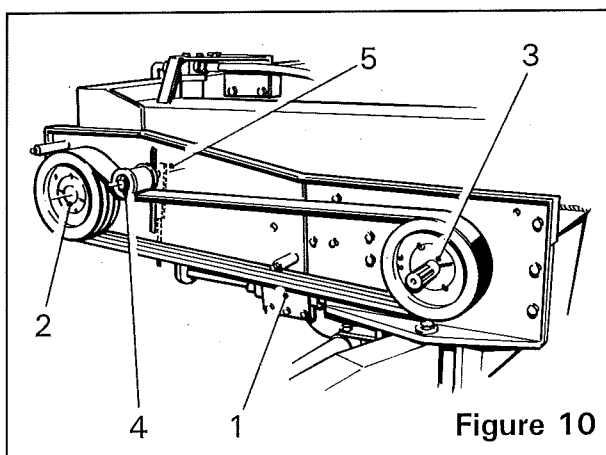
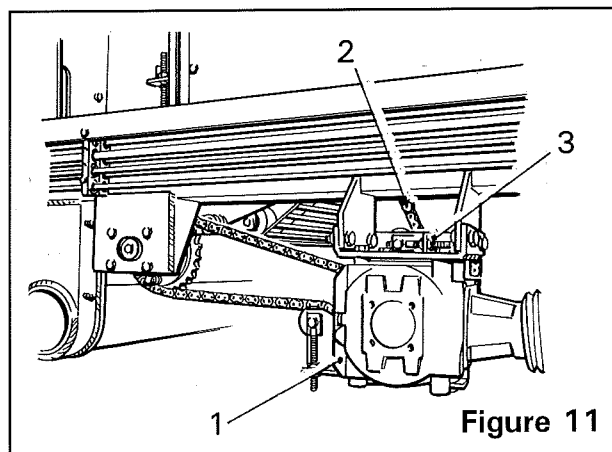

Figure 10
Figure 11
The main digger web drive is taken from the tractor PTO via four SPB section 'V'belts (*item 1, figure 10*). The drive shaft (*item 2, figure 10*) connects to the gearbox (*item 1, figure 11*) with a Hardy Spicer drive shaft eliminating any misalignment. From the gearbox the drive is by chain onto the assister drive shaft and then by gear train to the main web shaft, this ensures that the web drive stays exactly in phase eliminating any hunting in the web.
The digger web drive chain (*item 2, figure 11*) is fitted with an adjustable tension roller (*item 3, figure 11*) which should be checked regularly and adjusted as required.
*Overload protection for the digger web is provided by the 'V'belts (*item 1, figure 10*). Do not overtighten the belts. The belts should be tensioned to drive normally without slipping, but not so great that the belts cannot slip when the drive is obstructed.*